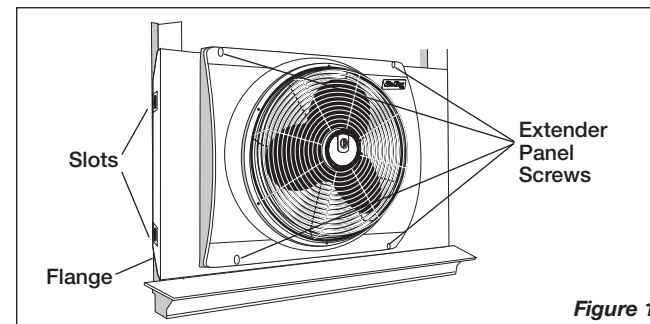

Figure 1
- Loosen 4 Extender Panel Screws and extend Side Panels to clear the outer edge of trim on each side of window. (Figure 1)
- Loosen 4 Extender Panel Screws (Figure 1) and extend Panels on each side of Housing until the Fan fits snugly between right and left window trim.